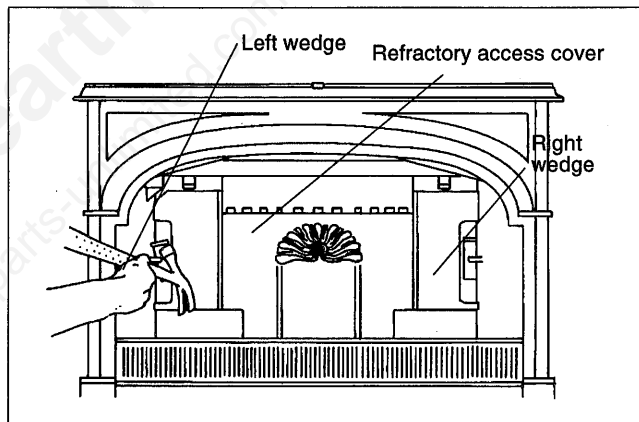

Fig. 50. Release the lower fireback by tapping out two wedges.
3. Release the fireback by prying the left and right wedges upward as shown in Fig. 50.